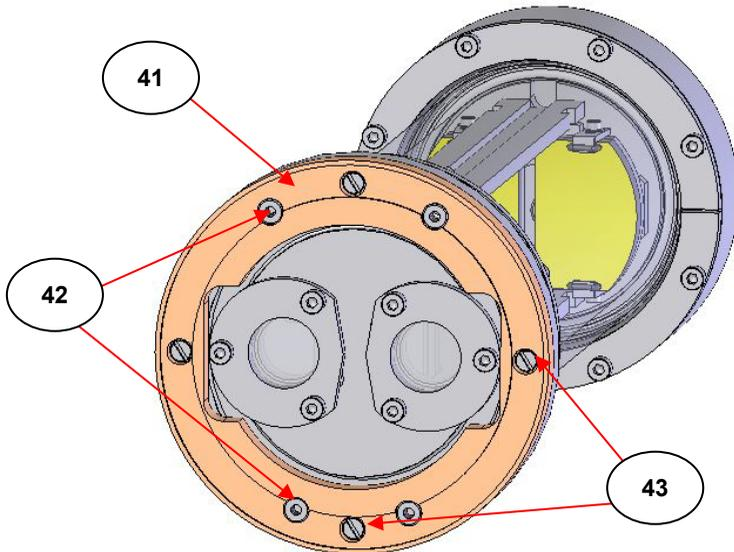

Fig 25. Underside View of C5 Cell Separated from Optical Unit (1) and with Windows Sealed in Position
When the Cyclone™ C5 or C10 gas cell has been separated from its optical unit (1), lay the gas cell on its side on a flat work bench to gain access to the underside of the cell where the window assemblies are fitted. (See Fig 25.)
At the base of the gas cell there is a PEEK retaining ring (41). In the PEEK ring (41) there are four captive retaining nuts (42) for the four M4 x 8mm (C5) or M4 x 12mm (C10) screws (34) that hold the gas cell body assembly to the optical unit (1). These four nuts (42) are in a specific configuration within the circumference of the PEEK ring, such that with the gas cell orientated as shown in Fig 25, the top two retaining nuts (42) are further apart than the lower two retaining nuts. This pattern of retaining nut (42) locations on the PEEK ring (41) matches the pattern of four holes on the top surface of the separated optical unit (1) and determines the gas cell for use in one of the specific light beam directions. (LR or RL).